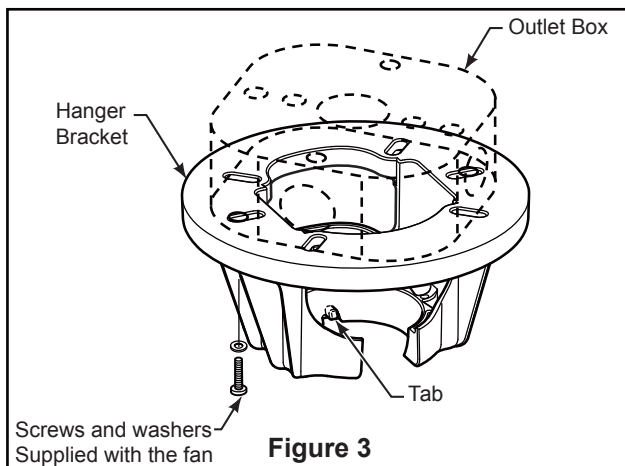
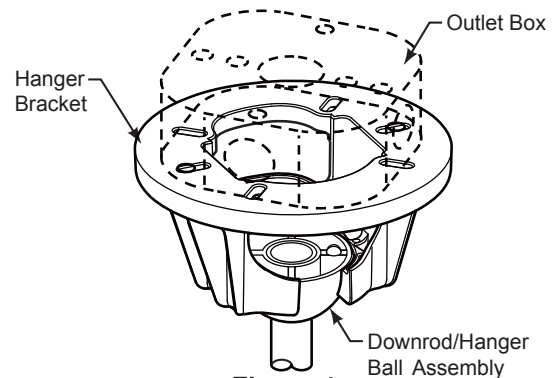

Figure 3
Figure 4
- 4. Slide downrod into the downrod support on top of the motor. Install the clevis pin by aligning the holes in the downrod support with holes in the downrod. Secure clevis pin with hairpin clip. Install and tighten the two set screws with nuts in the downrod support. (Figure 4)
1. Securely attach the hanger bracket to the outlet box using the #8-32 outlet box screws and washers supplied with the fan. (Figure 3)
**NOTE:** Outlet box screws pass through slotted holes of the hanger bracket. (Figure 3)
3. Carefully lift the fan and seat the downrod/hanger ball assembly on the hanger bracket that was just attached to the outlet box. (Figure 4) Be sure the groove in the ball is lined up with tab on the hanger bracket. (Figure 3)
- 4. Assemble the light wire cover to the lower housing assembly using the two key slots in the light wire cover. Replace the previously removed screw and securely tighten all three screws. (Figure 4)